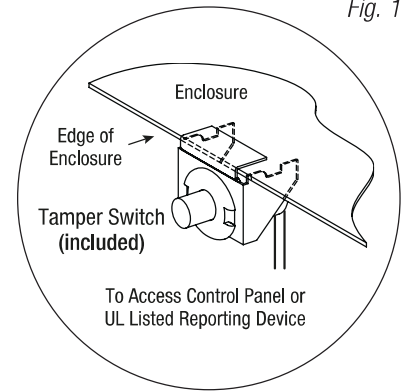

Fig. 1
3. Mount included UL Listed tamper switch(es) (Altronix Model TS112 or equivalent) in desired location, opposite hinge. Slide the tamper switch bracket onto the edge of the enclosure approximately 2" from the right side (*Fig. 1, pg. 3*). Connect tamper switch wiring to the Access Control Panel input or the appropriate UL Listed reporting device.